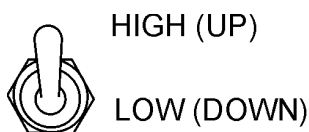

Figure 58. Engine Speed Switch (HIGH)
10. Once the engine starts, wait a few minutes, then turn the throttle handle(Figure 58) to "HIGH".